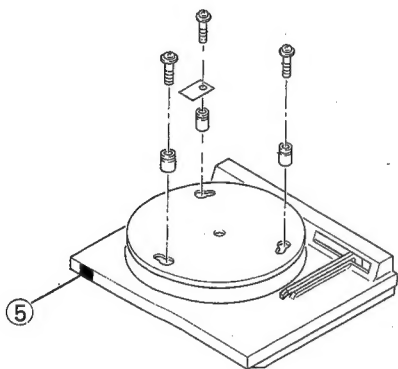

Figure 1
- 1-1. Press the POWER Button (5) so that the power will be switched off, and remove the turntable platter and mat (Fig. 1).